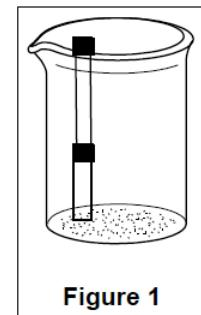
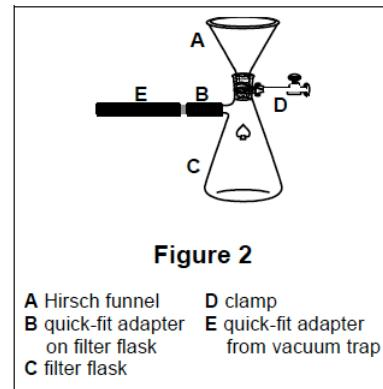

Figure 1
Figure 2
- d. Hold the apparatus by the RB flask and gently swirl its contents for 15 minutes. Set the apparatus in a large beaker (as shown in Figure 1) while setting up the equipment depicted in Figure 2.
- a. Using a metal clamp secure a 250 mL filter flask to the left most vertical support bar. Fit the filter flask with a Hirsch funnel equipped with a Hirsch funnel filter paper. Connect the quick-fit adapters of the vacuum trap and filter flask. Your apparatus should now resemble Figure 2.